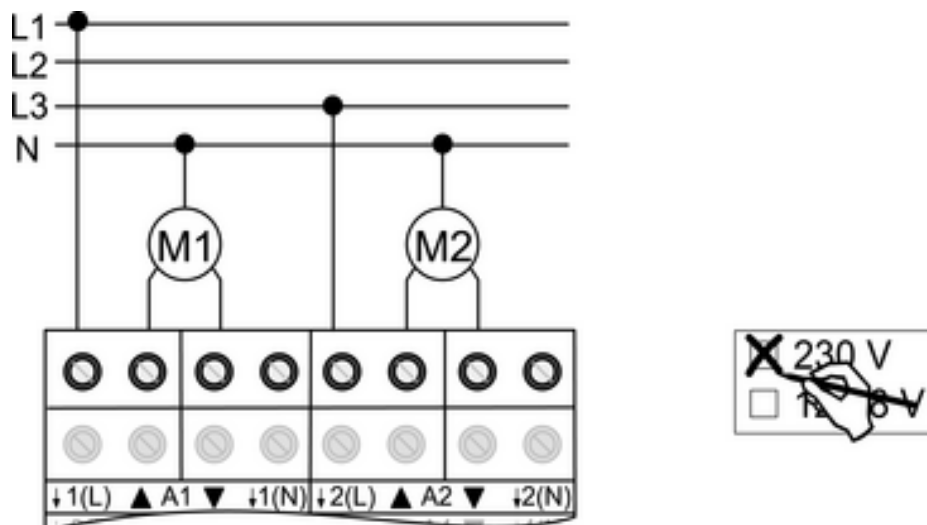

Figure 6
- Connecting the motors (figure 6).
- Mark **230 V** use on label (figure 6).
- The N conductor connections (14) serve only to detect the operation time and do not provide any N potential.